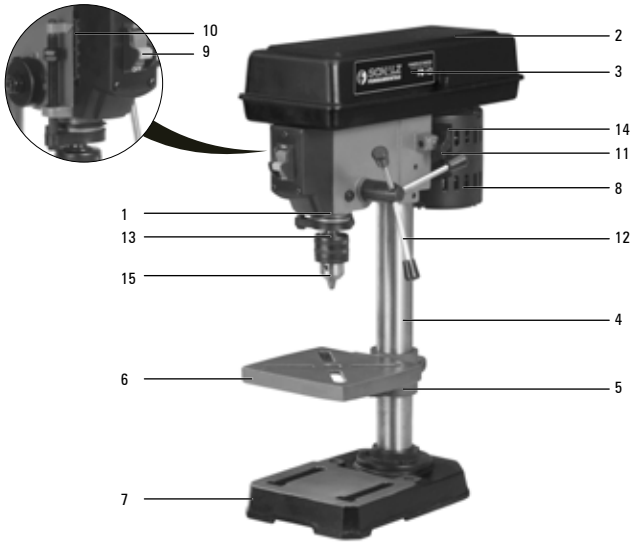

FIGURE 6.1
- Separate all the wrapped parts and compare each of the items with the figures 6.1, 6.2 and list of free parts (Chapter Main Components).